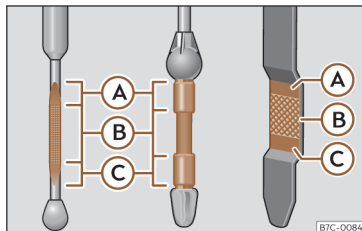

Fig. 224 Engine oil dipstick.
- Then pull it out again and check the oil level >>> Fig. 224. Top up with engine oil if necessary.
- When the oil level reaches at least zone >>> **Fig. 224 B**, carefully screw on the engine oil filler cap >>> .